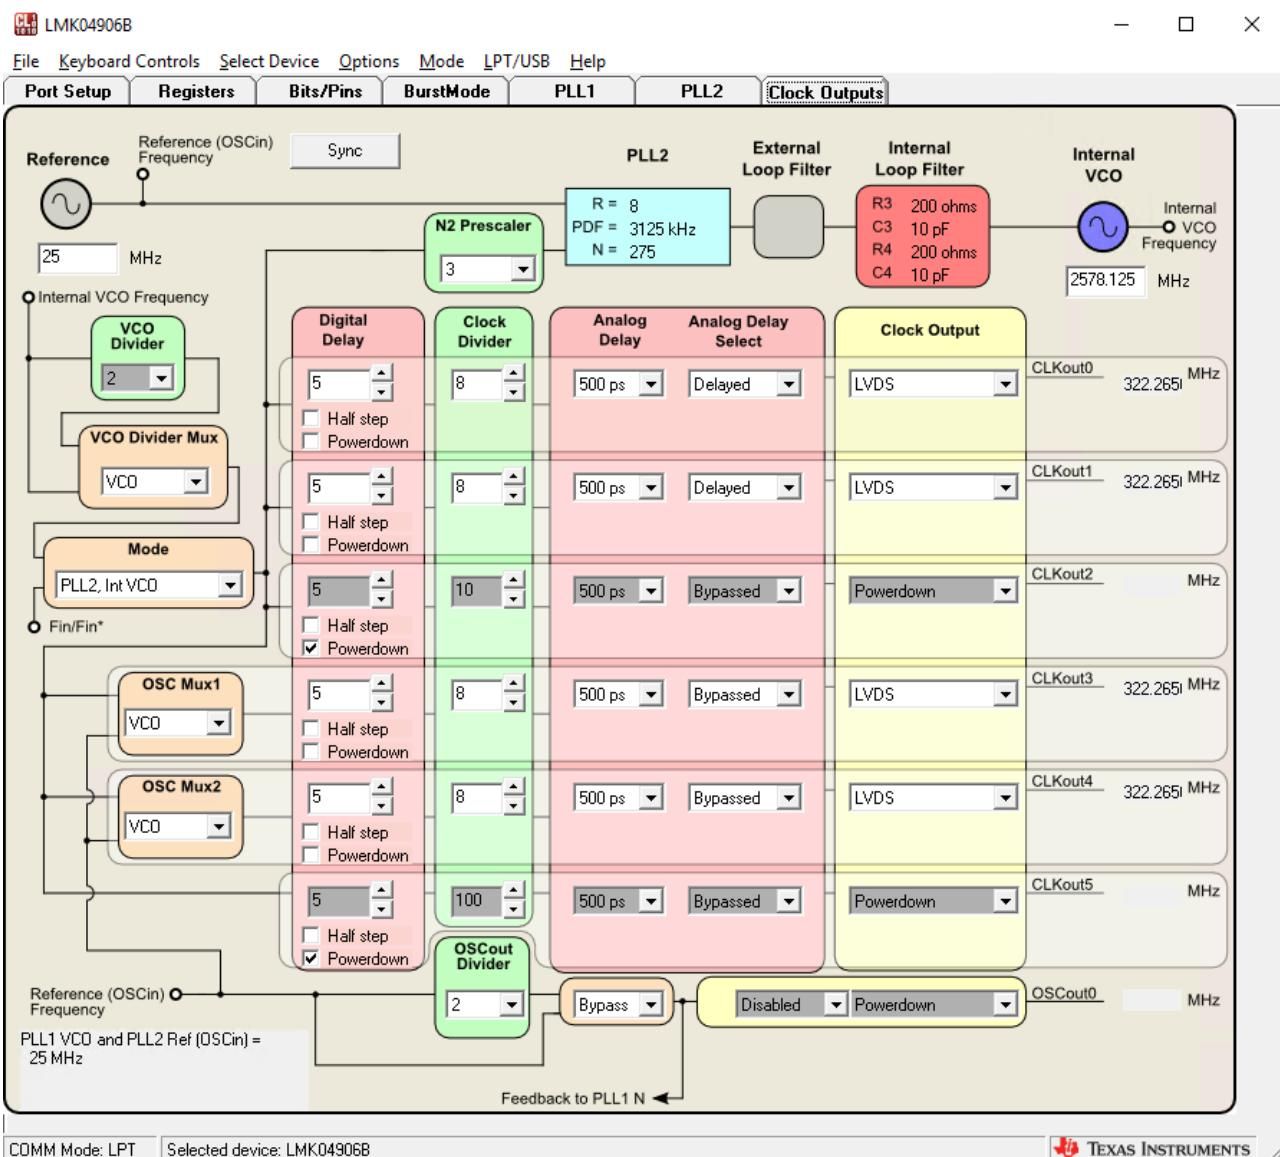

Figure 5-10 Define Output Clock Frequencies on Codeloader
6. After the installation, select LMK04096B, and configure the input frequency and the output frequency as shown in **Figure 5-10**.